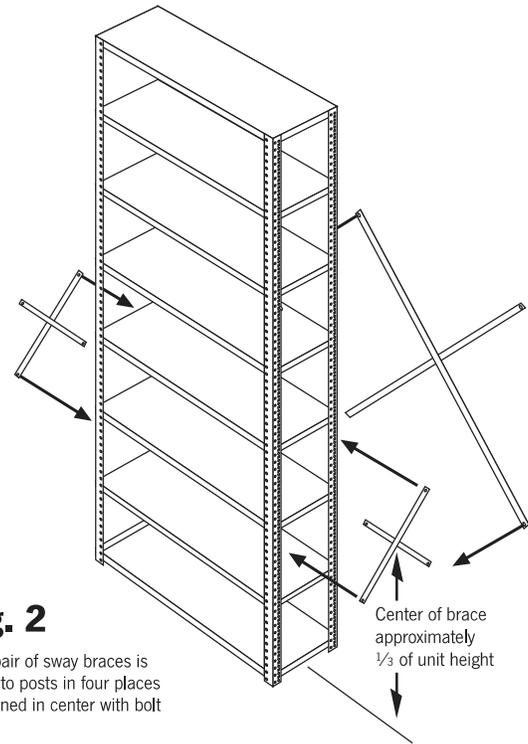

Fig. 2
- 3 Attach the back sway brace (longer than the side sway braces) to the outside of the posts approximately 1/3 of the way between the top and bottom shelves (**Fig. 2**). Back to back units share a common sway brace.
- 4 Attach the side sway braces to the sides of the unit approximately 1/3 of the way between the top and bottom shelves (**Fig. 2**). For Beaded and Delta front posts, the side sway brace is placed between post flanges. When two or more units are bolted together side by side, the side sway brace is common between units. If installing Beaded or Delta post units, the Beaded or Delta post is common between units. Bolt centers of sway braces together.